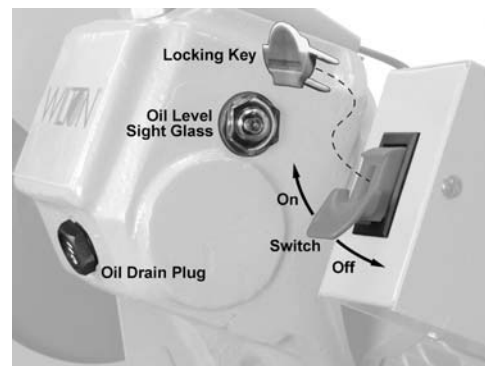

Figure 7
Locking Key – When the saw is not in use, the switch should be locked in the off position. To lock the switch in the off position, pull out the *safety key* (Figure 7). The saw will not start with the key removed. However, if the key is removed while the switch is in the on position, it can be turned off once. The saw will not restart until the key has been reinserted into the switch.
4. Turn the power *on* (Figure 7).
- ❑ Gearbox oil – check level weekly, full level is top of *sight glass* (see Figure 7) with head in full up position; gearbox oil should be changed annually. Unscrew operating arm (B, Fig. 3) and add oil through opening in crankcase (E, Fig. 3)